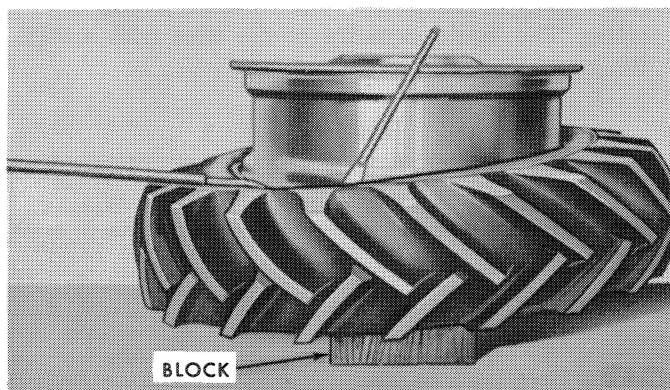

Figure 19—Prying Wheel Out of Tire
7. Turn the wheel over and block the rim up off the floor as shown in Figure 19. Pry the wheel out of the tire, starting with a small section and following around the wheel.